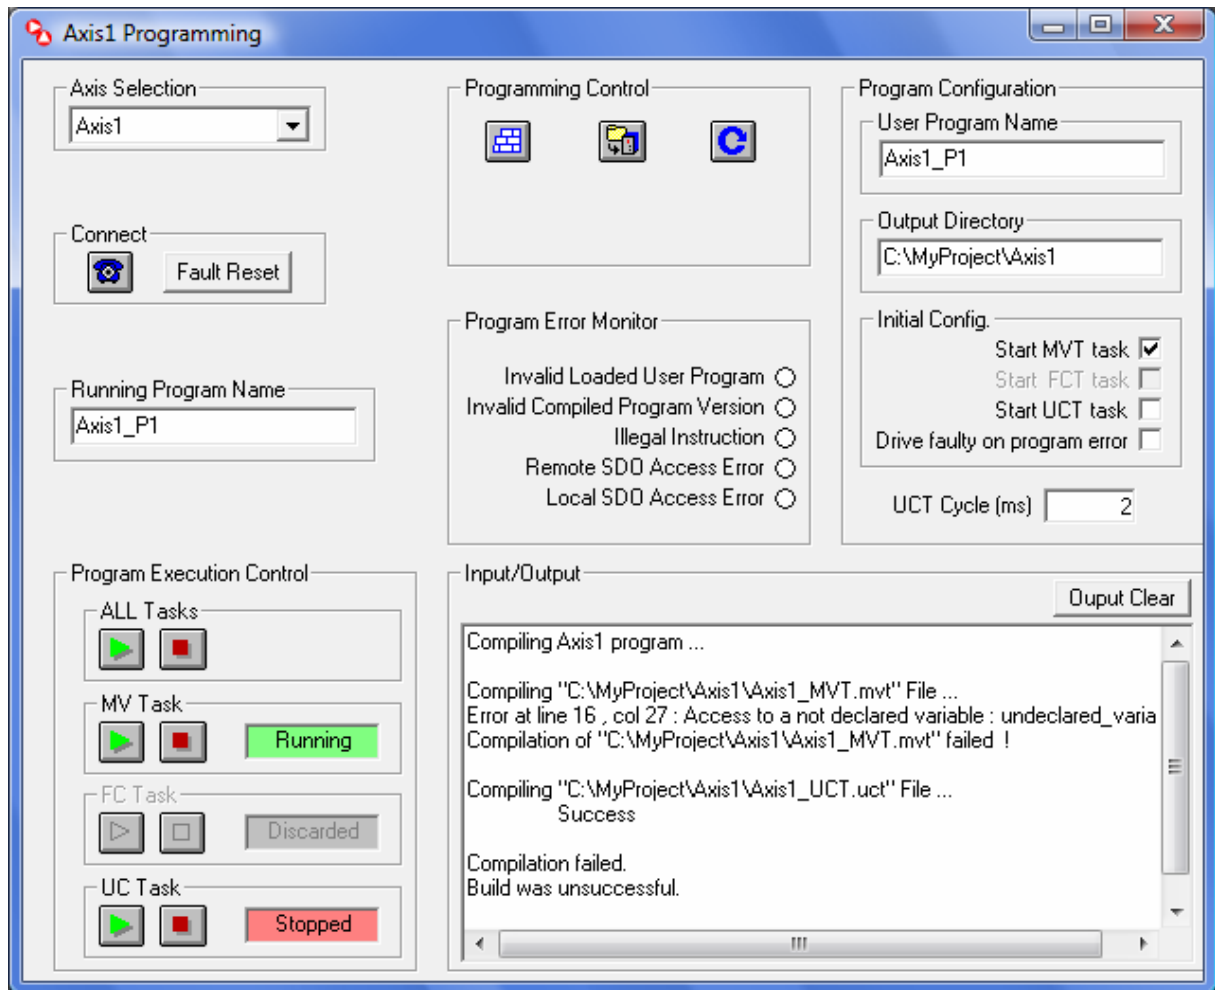

Figure 4-8: Compiler error message report.
1. double clicking on the error line in the Programming Tool output window (see Figure 4-8) or